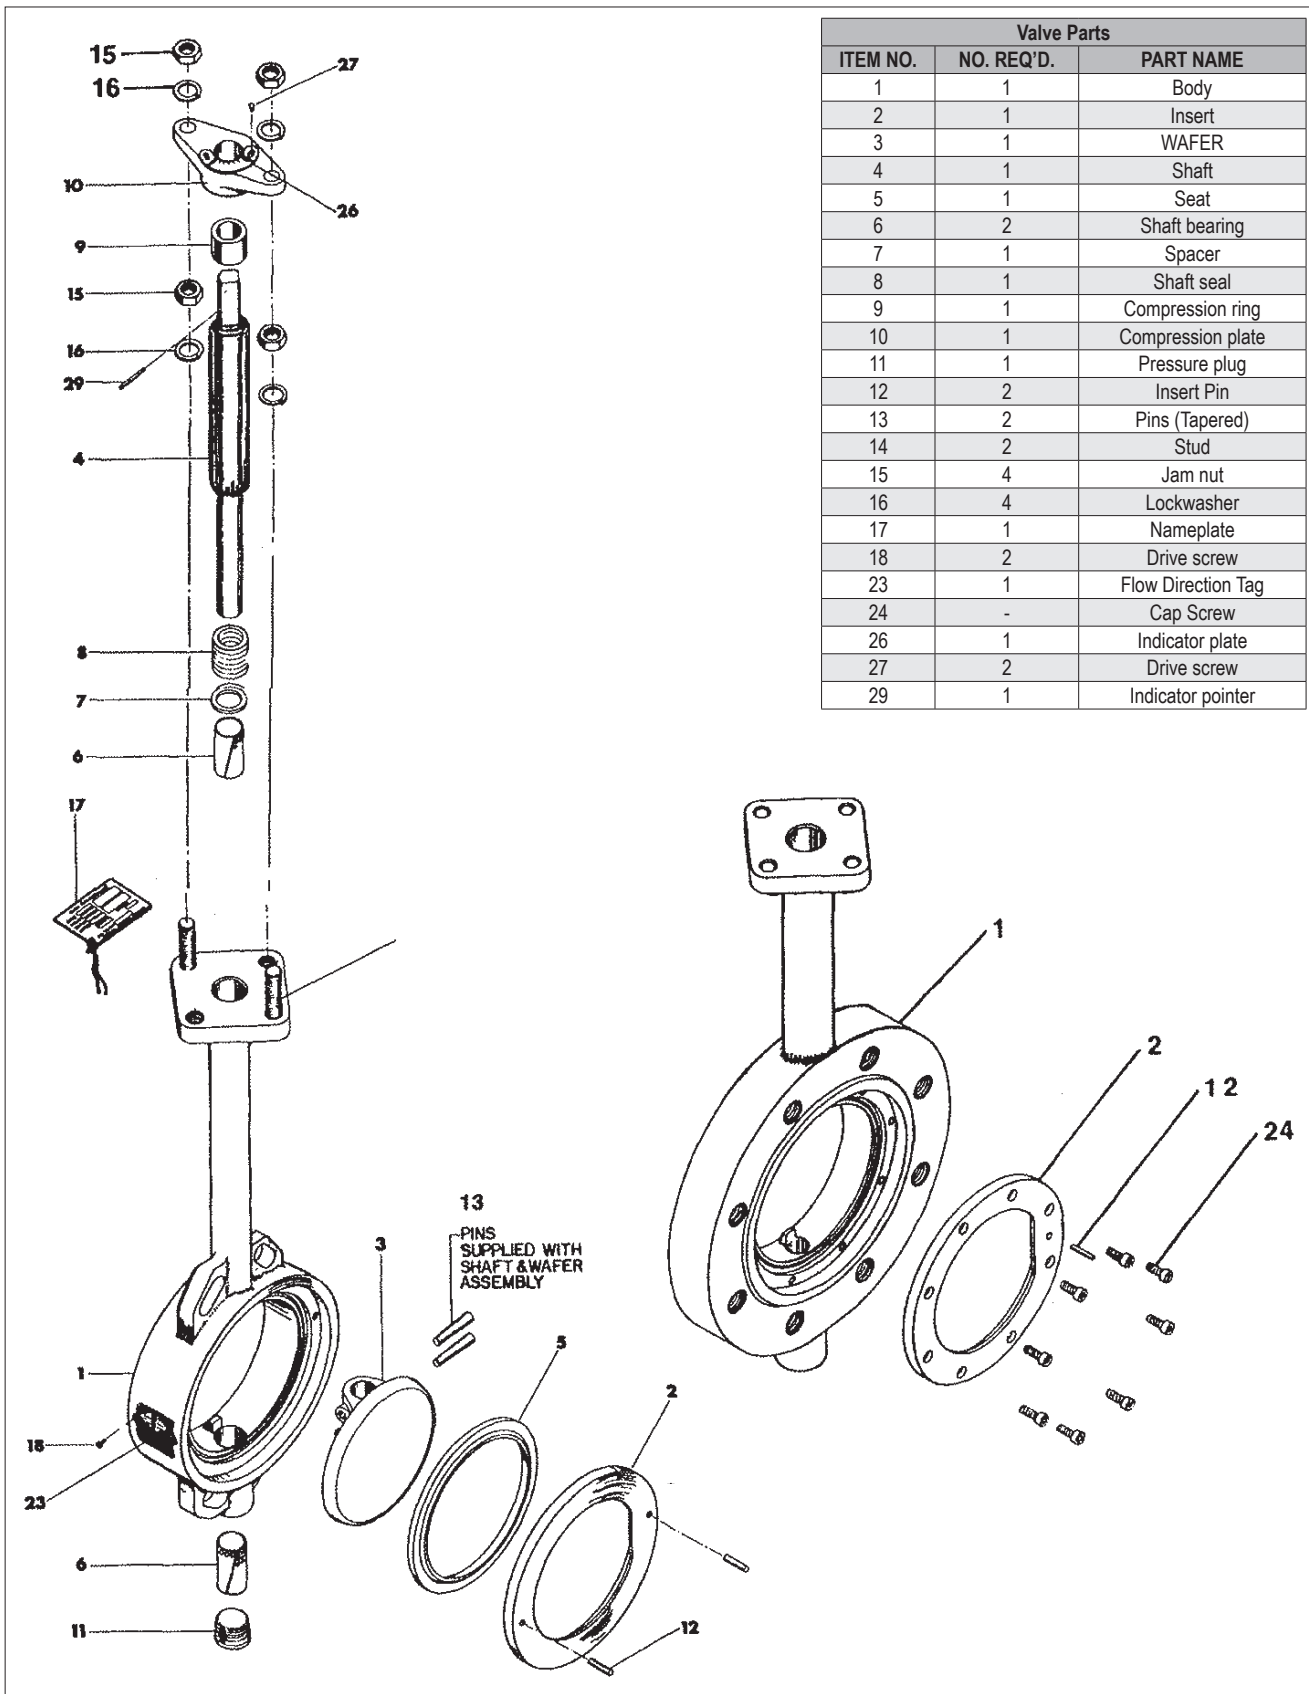

Figure 3. Exploded View
To prevent seat damage from over-travel of the disc beyond the closed position (primarily during field mounting of a handle or actuator), a "positive stop" feature has been designed into the *Wafer-Sphere* butterfly valve. The "positive stop" feature also makes it possible to adjust the actuator travel stop in-line. The location of this feature on the body insert is shown in **Fig. 3**.
1. Remove the wafer pin welds by grinding or machining off the weld. Drive out the taper pins in the direction shown in diagram (Fig. 3).
2. Remove the pressure plug (11).
3. Use a soft rod and hammer to tap the bottom of the shaft (4). Remove it through the top of the valve. **NOTE:** In doing so, and freeing the disc, be careful not to scratch the sealing surface of the disc.
4. Remove the top bearing (6) by pushing it up from the bottom (waterway).
5. Remove the bottom bearing (6) by pushing it down from the top (waterway). **NOTE:** To keep bearings in place, the valve body is staked on the I.D. **DO NOT** try to remove the bearings by pushing them toward the center of the valve.